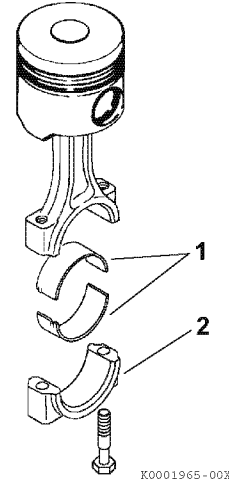

Figure 6-95
- Install the bearing inserts (**Figure 6-95, (1)**) in the connecting rod and cap.
- Apply a light coat of clean engine oil to the rod cap bolts. Install the connecting rod cap (**Figure 6-95, (2)**). Tighten the connecting rod bolts to the specified torque in two stages (1/2 then full torque). See *Special Torque Chart* on page 6-11.